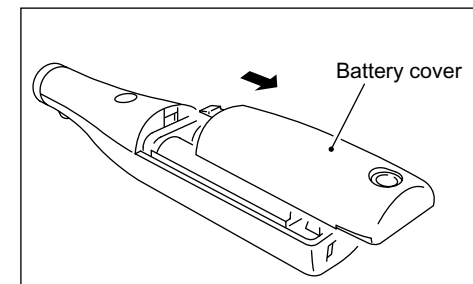

Fig.19
- ④ Remove the battery cover by sliding it toward the charging terminal. (Fig. 19)
- ⑤ Remove old batteries.
- ⑥ Insert new batteries according to the polarity marking in the battery box. A mix-up between the plus and minus sides will not allow operation of the handpiece.
- ⑦ Attach the battery cover.
- ⑧ Tighten the screw with a Phillips screwdriver. Do not overtighten it.
- ⑨ Insert the rubber cover back into the screw hole of the battery cover in the originally inserted direction.